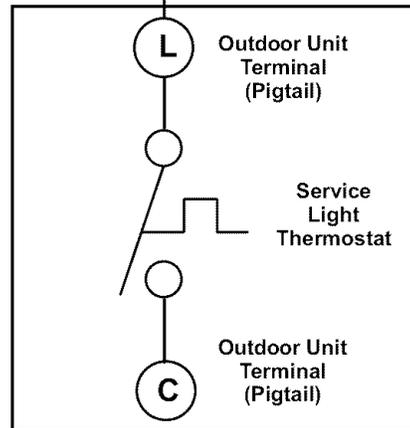

FIGURE 2
- 6 - Locate jumper JR3 on the SLC1 board. This jumper must be set according to the typical thermostat used. If a GE thermostat is used, the jumper should be across pins 3 and 2. If a White Rodgers thermostat is used, the jumper should be across pins 2 and 1. Refer to table 1 to identify thermostat as GE or White Rodgers. See figure 2 for wiring examples.